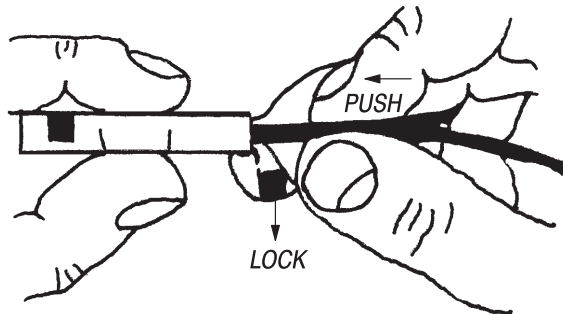

Figure 4
8. While applying gentle, inward pressure with the thumb and forefinger, gently rotate the key handle, turning it 90° as shown in Figure 4 (do NOT snap it closed). This locks the first fiber in place. Inspect the fiber to make sure it remained in the channel during locking.